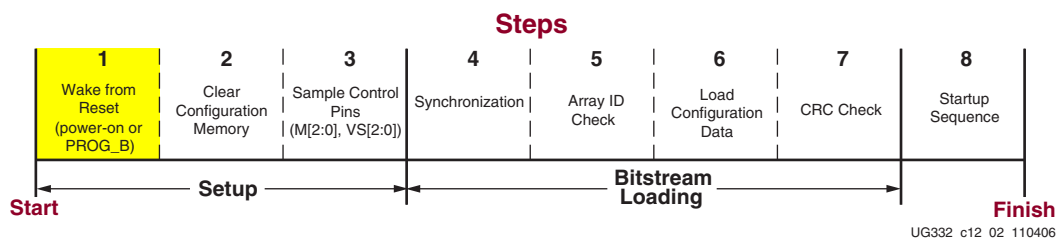

Figure 12-2: FPGA Wake from Reset
1. Hold the `PROG_B` pin Low, which holds the FPGA in reset, Step 1 shown in Figure 12-2, page 244.